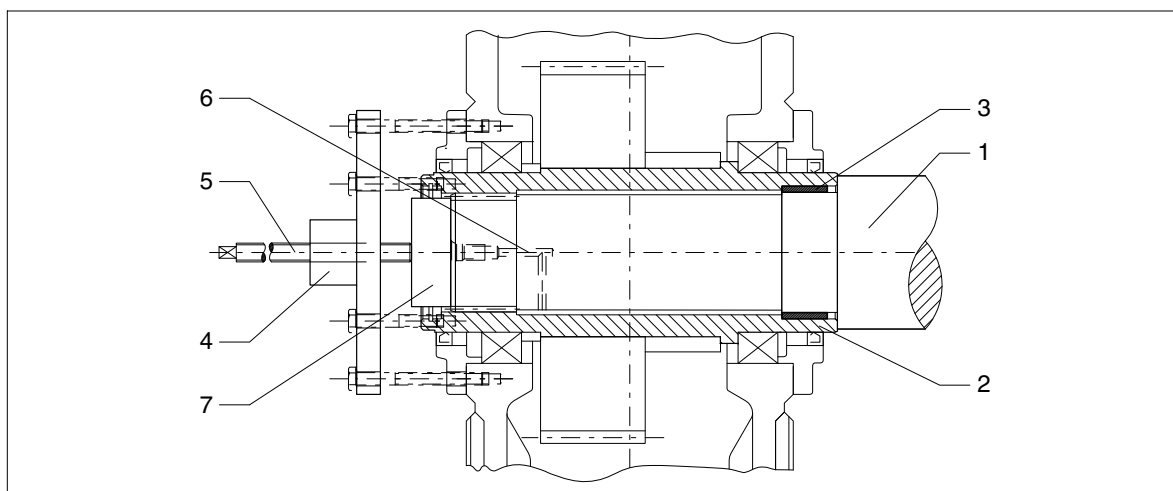
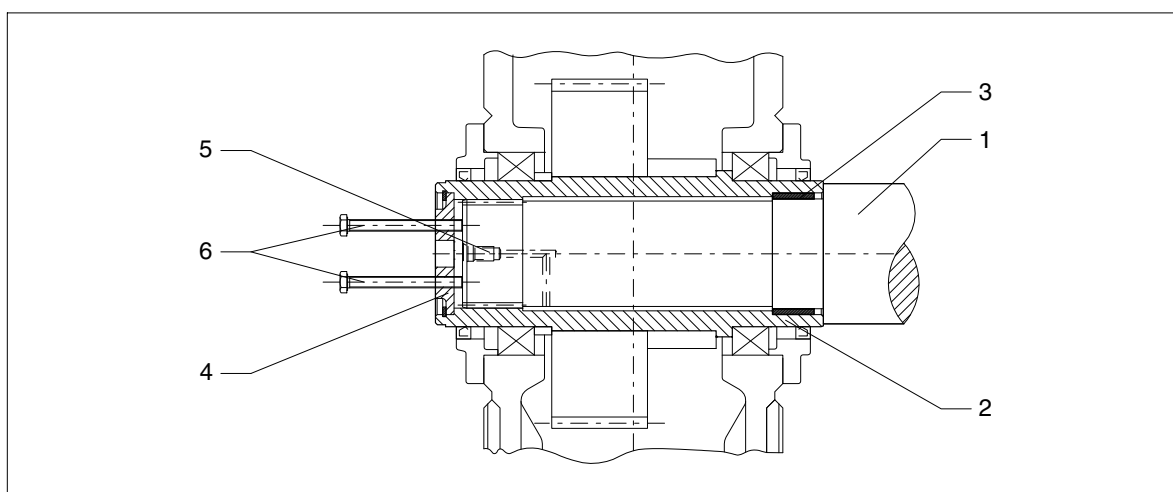

Fig. 47: Hollow shaft with splines, demounting with hydraulic cylinder
Fig. 48: Hollow shaft with splines, demounting with end plate
- If frictional corrosion has occurred on the seating surfaces, rust-releasing agent may be used to facilitate forcing off the gear unit. The rust releaser can be injected through the pressure-oil connection (see figure 47), using a pump.
- When the rust-releasing agent has taken effect, pull the gear unit off using the device (see figures 47 and/or figure 48).
- using forcing-off screws in an end plate (see figure 48), or
If the support is provided not only by the hollow shaft, but also by the housing, when forcing the gear unit off, as shown in figure 47, the forces used must not exceed the values given in table 14 below.